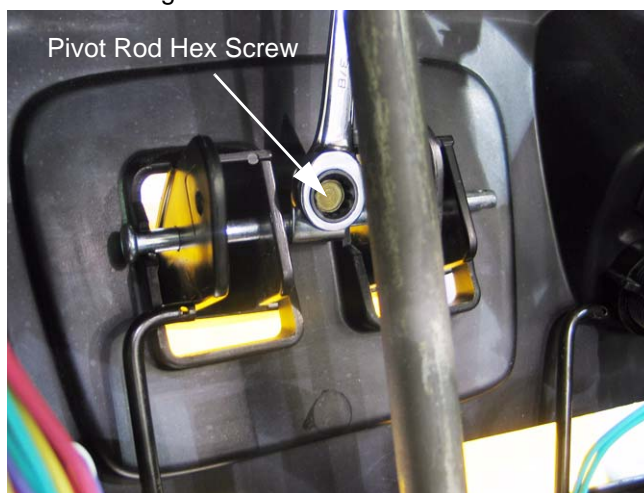

Figure 16.5
16.5. Remove the screw holding the pivot rod in place. See Figure 16.5.